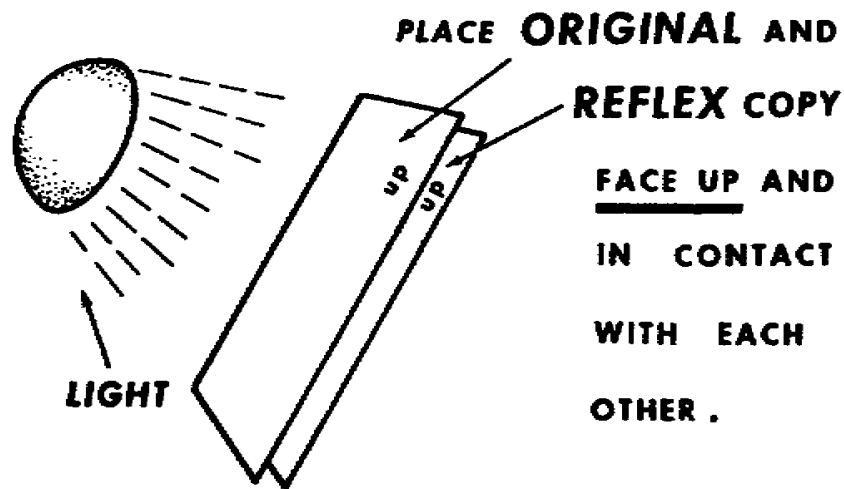

Figure 3-13. Direct copy
(1) There are many ways you can make direct (scale 1:1) copies. A photographic method of direct copying is called reflex copying. The main advantages of reflex copying over other forms of direct copying are durability and sharpness of the image. Direct copy film, however, can produce as sharp or sharper results than reflex paper film. The scale in reflex copying is 1:1.
(2) When the original is translucent and printed on only one side, copy prints are made directly on flex copy paper by a contact printing process (fig 3-13). The original is placed face up on top of the reflex copy paper and exposure is made by shining light through the original.